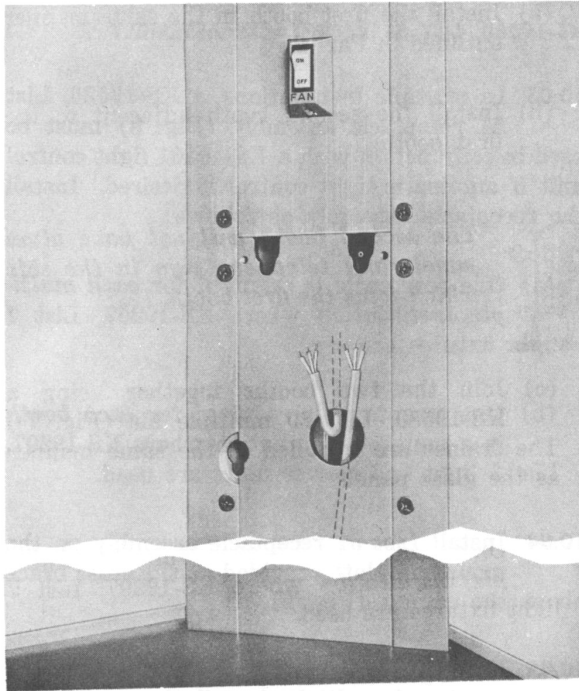

Fig. 6 — Station Wiring
3.09 Station connection wires are furnished as shown in Fig. 6. Complete connections are covered in sections entitled Coin Collectors, Connections, and sections entitled Subscriber Sets, Connections.